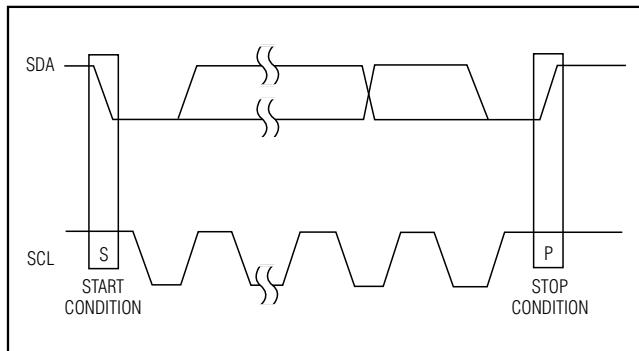

Figure 6. Start and Stop Conditions
Each transmission consists of a START condition sent by a master, followed by the MAX6618 7-bit slave address, plus an R/W bit, one or more data bytes, and finally a STOP condition (Figure 6). To write to a MAX6618 register, a write transmission consists of a START condition, followed by the MAX6618 7-bit slave address plus R/W = 0, a register address byte, one data byte, and finally a STOP condition. To read from a MAX6618 register, a combined write and read transmissions are required. The first write transmission consists of a START condition, followed by the MAX6618 7-bit slave address plus R/W = 0, a register address byte, and finally a STOP condition that sets the register to be read. The second read transmission consists of a START condition, followed by the MAX6618 7-bit slave address plus R/W = 1, one or more data bytes, and
Both SCL and SDA remain high when the interface is not busy. A master signals the beginning of a transmission with a START (S) condition by transitioning SDA from high to low while SCL is high. When the master has finished communicating with the slave, it issues a STOP (P) condition by transitioning SDA from low to high while SCL is high. The bus is then free for another transmission (Figure 6).
P: I ² C STOP CONDITION. SEE FIGURE 6.
S: I ² C START CONDITION. SEE FIGURE 6.